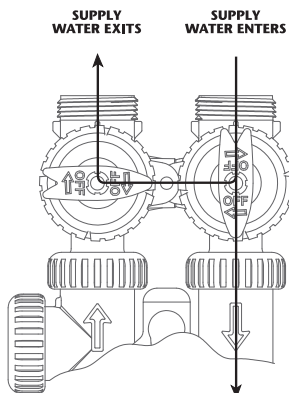

Figure 3
3. **DIAGNOSTIC POSITION:** The inlet handle points toward the control valve and the outlet handle points to the center of bypass valve. Untreated supply water is allowed to flow to the system and to the building, while not allowing water to exit from the system to the building (**Fig. 3**). This allows the service technician to draw brine and perform other tests without the test water going to the building.
4. The bypass is now in the diagnostic mode (*Fig. 3 on page 4*). Check to verify that water is being drawn from regenerant tank with no air leaks or bubbles in the brine line. There should be a slow flow to the drain.